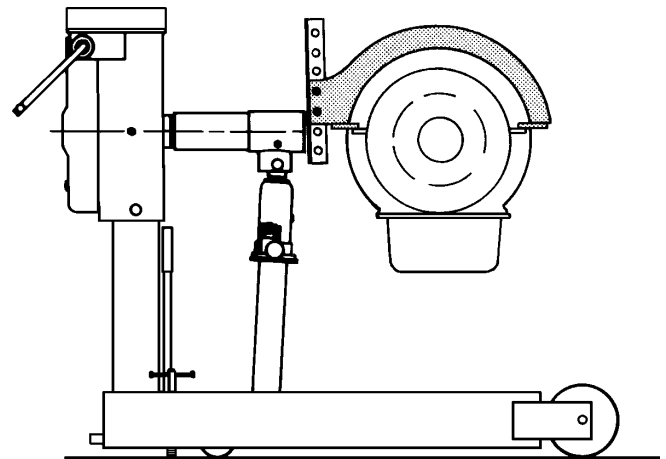

Figure 2
2. Find the transmission's center of balance (or greatest concentration of weight). See Figure 2.